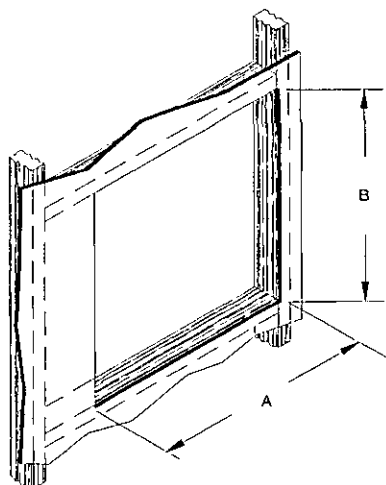

FIG. 5
1. Locate the area where the chimney section is to penetrate the vertical wall. Cut and frame an opening so that the flue is centered between the vertical wall studs on 6", 7" and 8" systems. Note that 10", 12" and 14" systems may require relocation of wall studs to maintain 2" clearance to combustibles. Consult local authorities if structural modifications are required. Frame opening per Figure 5 and Table 2.